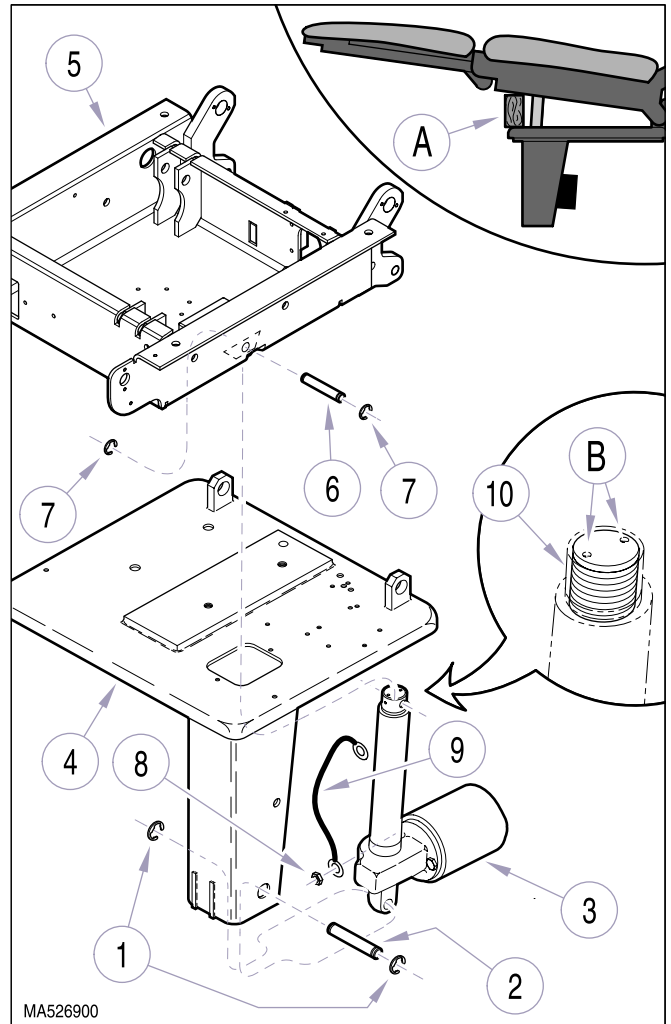

Figure 4-7. Tilt Actuator Removal / Installation
(14) Remove two e-rings (1, Figure 4-7) and clevis pin (2) securing base of tilt actuator (3) to column adapter weldment (4).
(15) Raise seat weldment (5) up far enough to get access to pivot pin (6). Using a block (A), support seat weldment in this position.
- (1) Install ground wire (9, Figure 4-7) on tilt actuator (3) and secure with nut (8).
- (2) Install tilt actuator (3) on column adapter weldment (4) and secure with clevis pin (2) and two e-rings (1).
- (11) Using spanner holes (B, Figure 4-7), unscrew adjustable clevis (10) until it is even with top of actuator rod.
- (12) Plug table power cord into outlet receptacle.
- (13) Run TILT UP function to extend rod of tilt actuator (3) 3 to 4 in. (7.6 to 10.2 cm).
- (14) Remove support block (A); then temporarily connect tilt actuator (3) to seat weldment (5) with clevis pin (6).